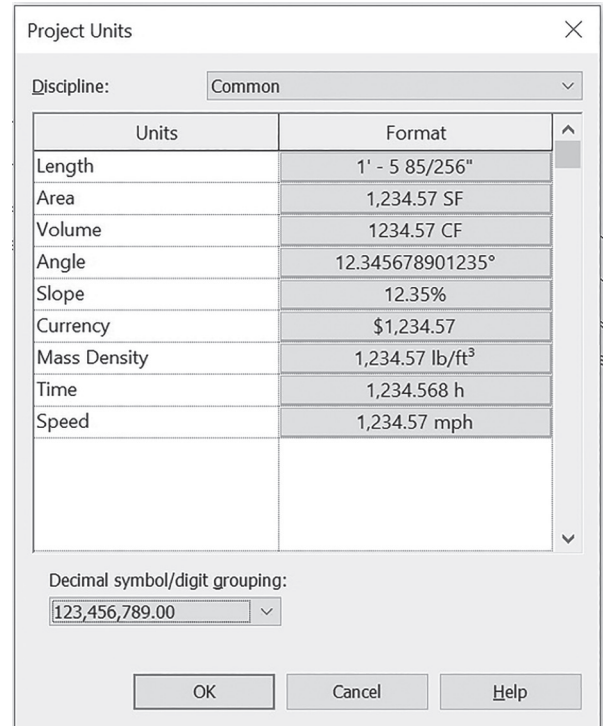

Figure 12: Image illustrating a properly set up Units dialog
1. Revit Units should look something like Figure 12, but if there are differences, a few things should (if not must, in my opinion) remain constant: Length and Angle must be as granular as allowed, whether in Revit, CAD, or any other software used to author BIM processes or any portion therein. Set the Units granular and then draw and model to rational dimensions. PERIOD!